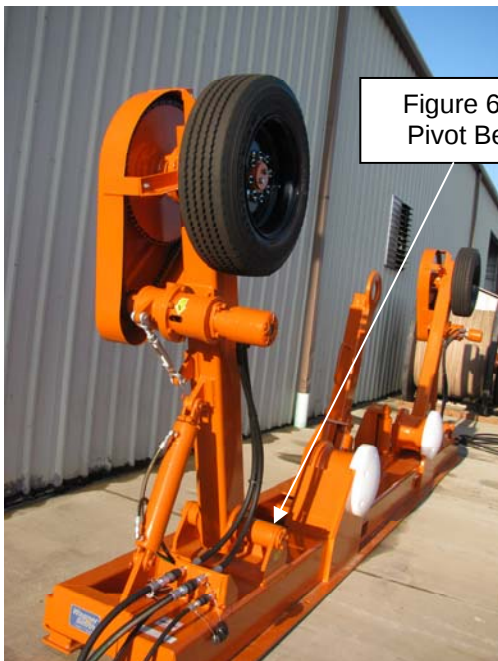

Figure 6 Drive
D. Drive Pivot Bearing Fig. 6 & 7